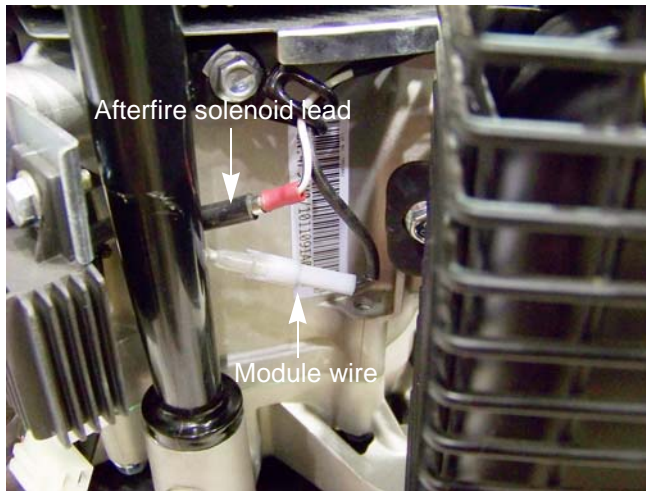

Figure 7.3
3. Disconnect the module wire that goes to the system harness. See Figure 7.3.